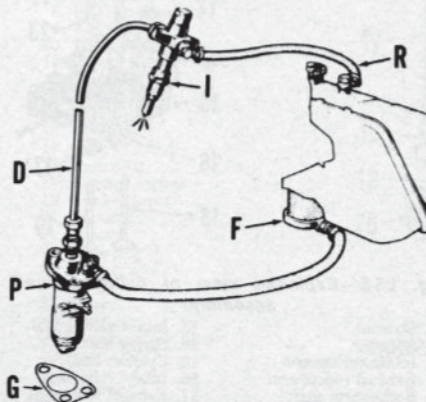
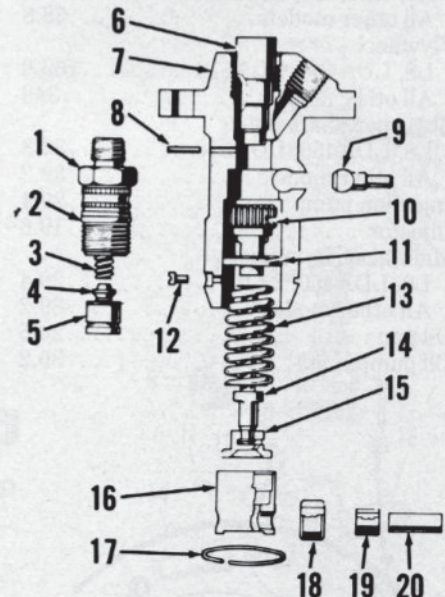

Fig. L5-2—Diagram of fuel system.
Fig. L5-3—View of fuel injection pump.
Injection pump timing is adjusted using shim gaskets (G—Fig. L5-2) between pump body and mounting surface on crankcase. To check injection pump timing, unscrew high pressure delivery line (D) fitting from delivery valve holder (1—Fig. L5-3). Unscrew delivery valve holder and remove spring (3) and
FUEL FILTER. The fuel filter is located inside the fuel tank as shown in Fig. L5-2. Renew fuel filter after every 300 hours of operation or sooner if required.
To advance injection timing, remove shim gaskets (G—Fig. L5-2); install shim gaskets to retard injection timing. Reinstall removed pump components and tighten delivery valve holder to 34.3-39.2 N·m. Tighten injection pump retaining screws to 29.4 N·m.